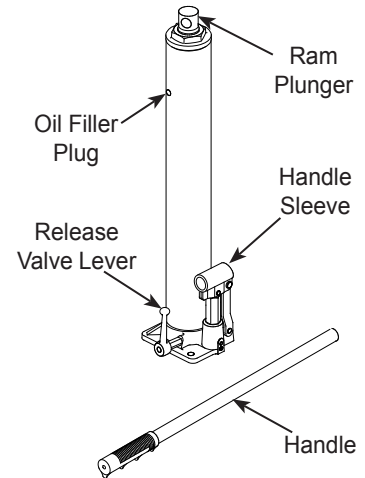

Figure 3 - Hydraulic Unit/ Ram
5. Place Post Assy (12) on the Base (10) and secure with Bolts (11). Leave bolts finger tight.
6. Attach Braces (13) on each side of upright at top and secure with Bolt & Nut (14 & 15). Place bottom of braces to inside of base, and secure with bolts & nuts (16 & 15). Tighten all bolts. Tighten Bolts (11) that were left finger tight.
7. Attach Power Unit Bracket (17) to Power Unit (18) with Bolts, Washers & Nuts (19, 20 & 21). Then attach the assembly to upright mounting ears using bolt & nut (22, 28 & 23).
8. Place Boom (24) on top of Post Assy (12) and secure with Bolt & Nut (25 & 26). Turn Power Unit Release Valve lever clockwise to close (Figure 3). Pump Power Unit using Handle (27) until ram extends approximately 2". Place boom mounting bracket on top of ram and secure with Bolt & Nut (28 & 23).
9. Slide Boom Extension (29) into the Boom (24), ensure the slot for chain faces down and secure with Bolt & Nut (28 & 23) in correct hole on boom for your particular job. Four positions available: 1/2 Ton, 1 Ton, 1 1/2 Ton And 2 Ton.
10. Slide Chain And Hook (30) through slot in lower front of Boom Extension (29) and secure with Bolt & Nut (31 & 15) as shown.
11. Attach Nylon Strap Assembly (32) to Base (10) with Bolt (33).